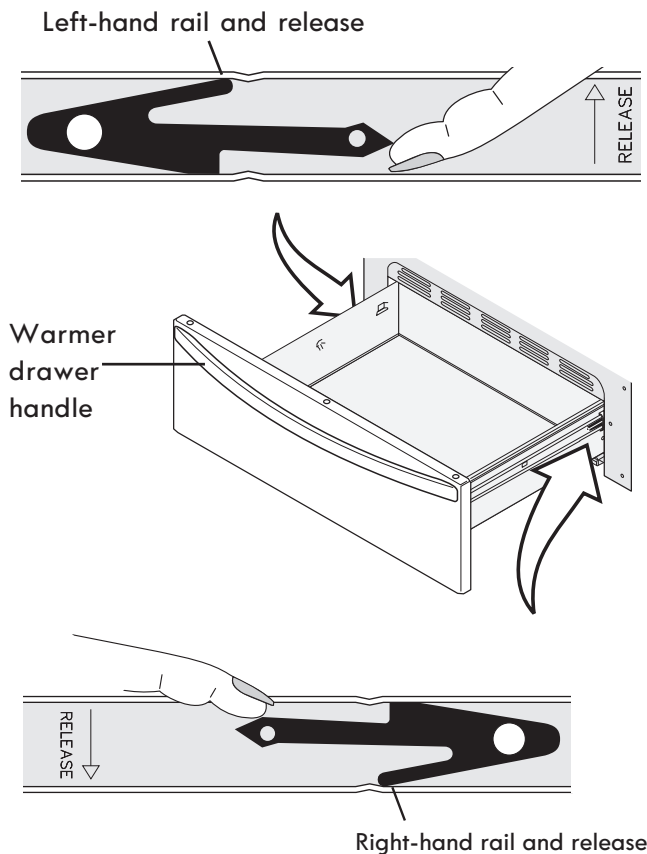

Figure 48: Removing the warmer drawer
3. On left warmer drawer rail, locate black release lever and press up with finger while pulling out slightly on the oven drawer handle. On right warmer drawer rail, locate black release lever and press down with finger while pulling out slightly on the warmer drawer handle (See Figure 48).